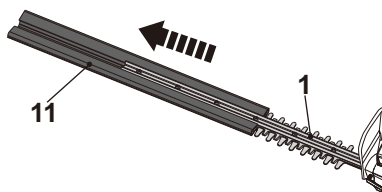

Fig. 2
1. Remove the blade cover (11) from the cutting device (blade) (1) before operation (Fig. 2).
2. Keep the blade cover (11) safely.